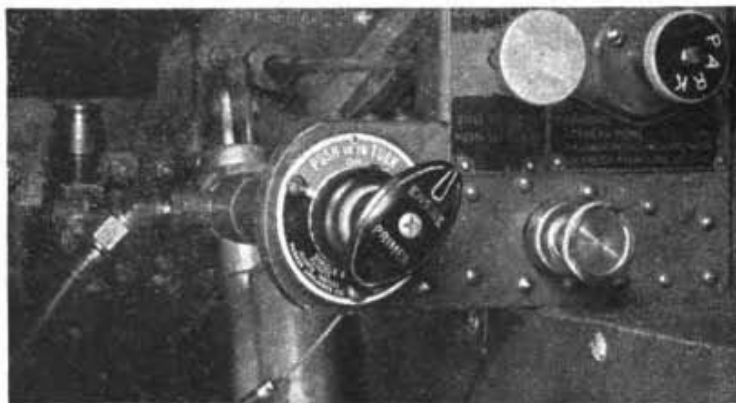

Figure 24. Primer pump in the OFF position.
(1) **HAND PRIMER.** To obtain a high efficiency from the hand primer, first unlock it (turn the handle from the OFF position to the ON position), then draw the plunger out slowly, and hold it out long enough to be sure that the pump cylinder is filled with fuel. When the cylinder is full, force the plunger in abruptly to atomize the fuel as it is discharged into the intake port of the engine cylinder. Two or three strokes are usually sufficient for starting in moderate temperatures. After priming, the plunger must be locked in the OFF position (fig. 24) or the engine